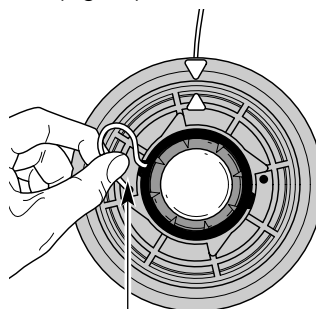

Fig. 17
3. Pull old line out of the line loading and line locking holes (Fig. 17 and 18).
5. Insert the line into the locking hole (Fig. 17). Do not push the line more than a 1/2 inch (12.7 mm) into the line locking hole. The line will form a small loop (Fig. 17) when it is inserted correctly.